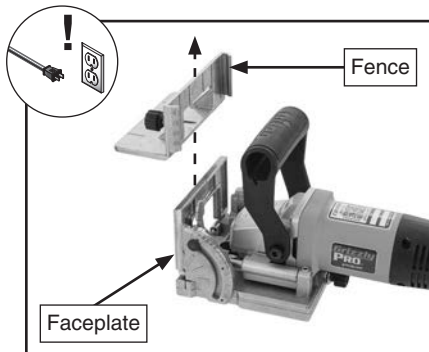

Figure 19. Fence removed from faceplate.
2. Loosen fence lock knob and then slide fence up to remove it from faceplate (see Figure 19).